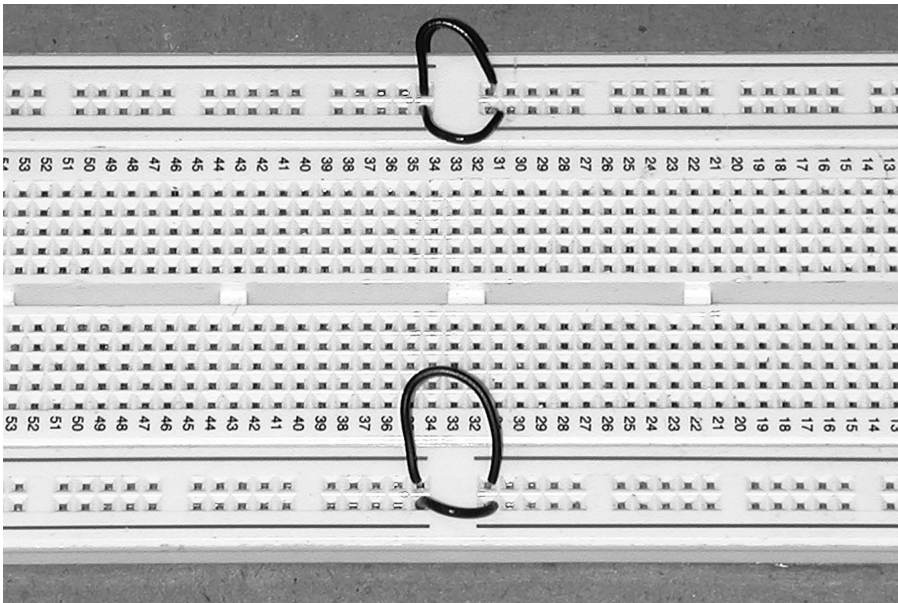

Figure 13.3 Using jumpers to join split power buses.
Place the breadboard on the table so the trough-like central groove runs horizontally, from left to right. If the breadboard is long, the upper and lower horizontal buses may be “broken” in the middle, rather than extending the full length of the board. If so, you will notice a slightly larger gap in the pattern of five holes—gap—five holes. Jump the gap with a small piece of wire, as shown in Figure 13.3.
- If there are double power buses at the top and bottom of the board, make sure you've connected the chip and the other components to the same bus and that the bus is connected to the correct lead from the battery clip (and bridge the gap if the buses are split, as shown in Figure 13.3).